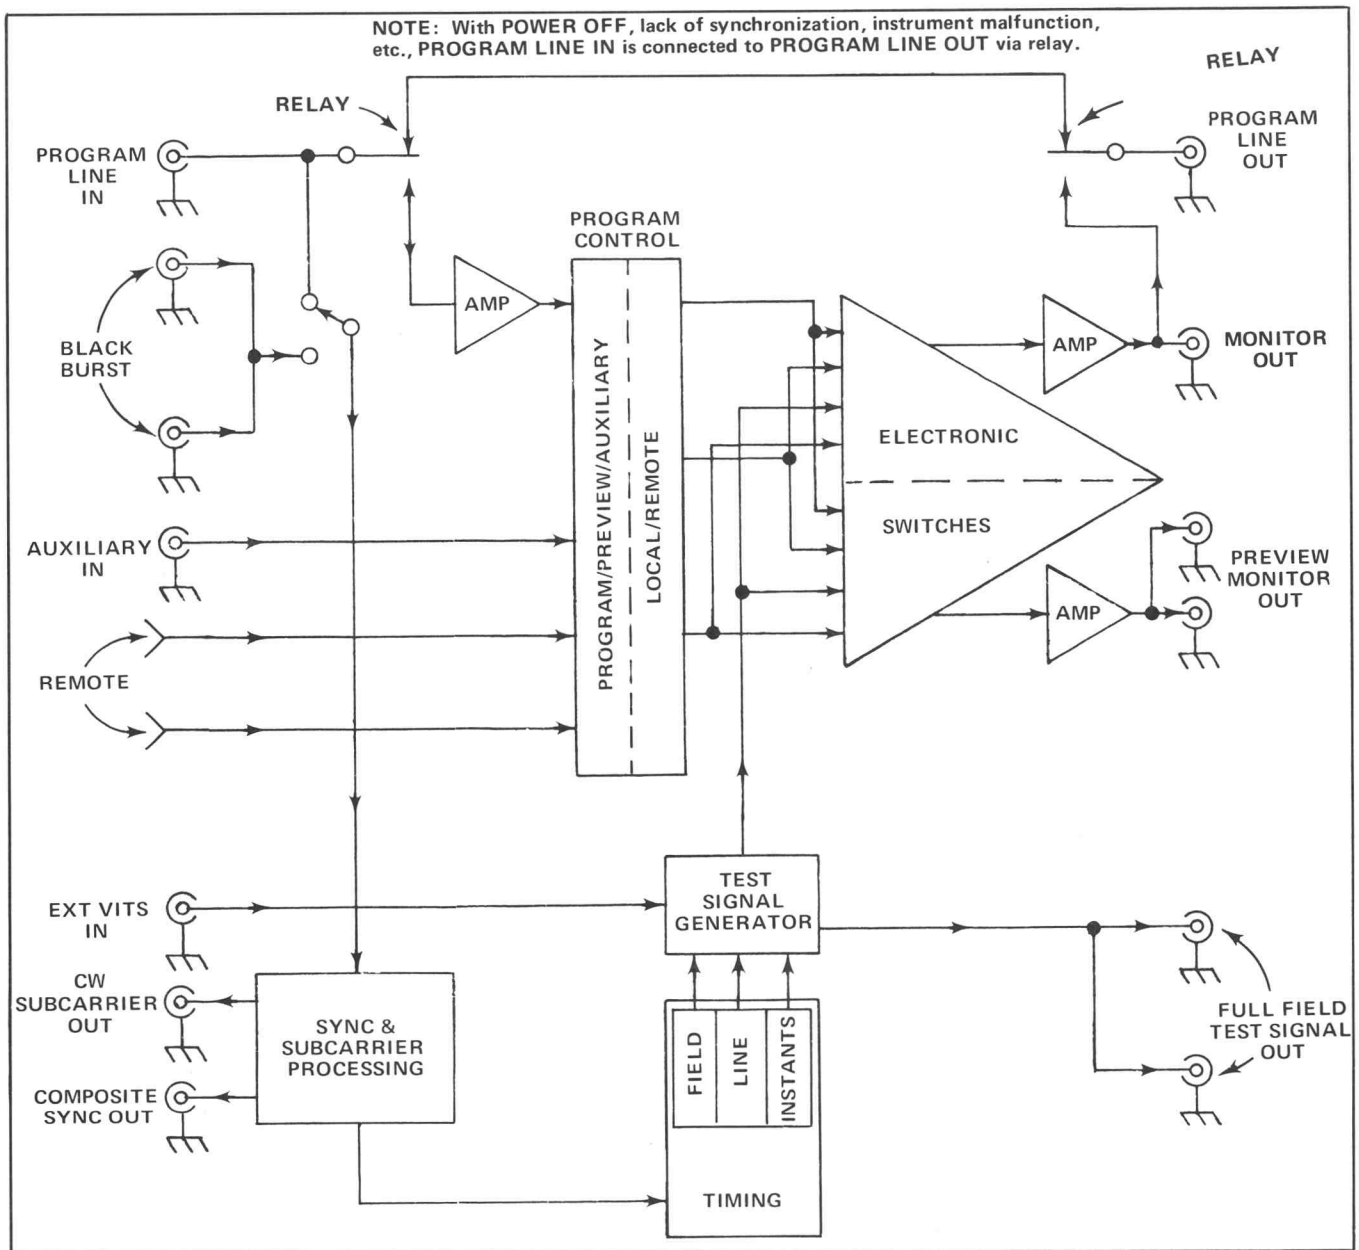

Fig. 3-1. Basic block diagram of the 149.
The 149 can be considered as in Fig. 3-1. Basically, the 149 consists of (1) a Relay to provide bypass in the event of loss of sync, instrument malfunction, etc., (2) Sync and Subcarrier processing circuits to detect synchronization information, (3) Timing circuits to provide gate signals used for generation of the output signals, (4) Test Signal Generator to generate the various output signals, (5) Program Control Switching to allow the operator to select the mode of operation, (6) Electronic Switches to route all